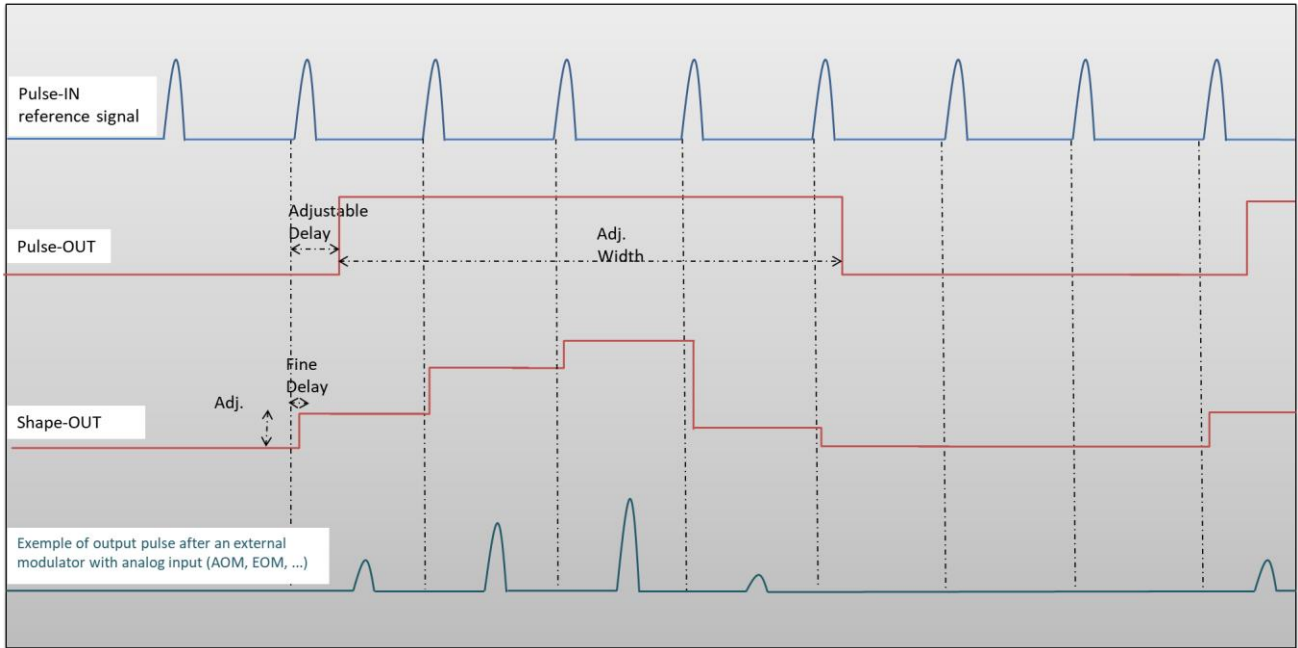

Figure 5 : Analog (Shape-OUT) and digital (Pulse-OUT) outputs with amplitude, delay and pulse width adjusted signals from input
- **Auto Fine Delay** may be let in auto mode or manual if you need to adjust the fine delay from reference signal to each shape point (see Figure 5).